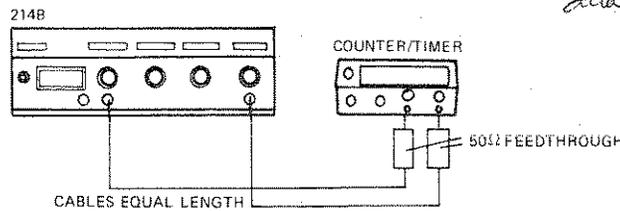

Figure 4-3.
8. Change test setup to that shown in Figure 4-3 to check DELAY RANGES.  $.1\mu - 1\mu$  to 1m-10m.